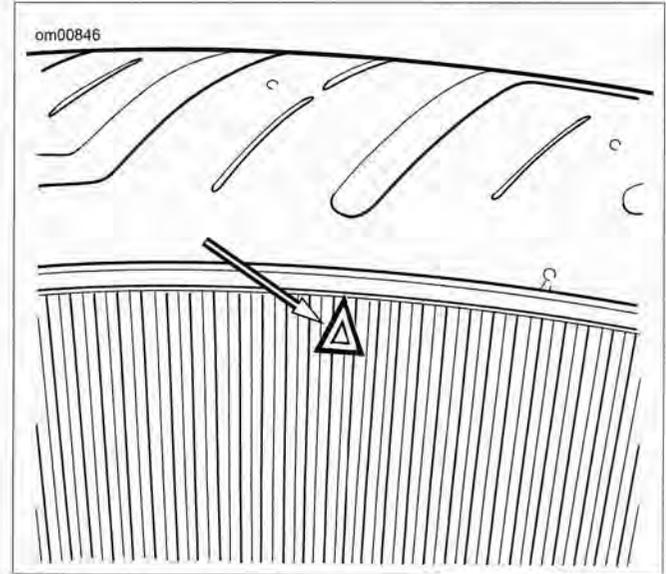

Figure 1-34. Tread Wear Indicator: Dunlop Tires
- **Dunlop Tires:** See Figure 1-34.